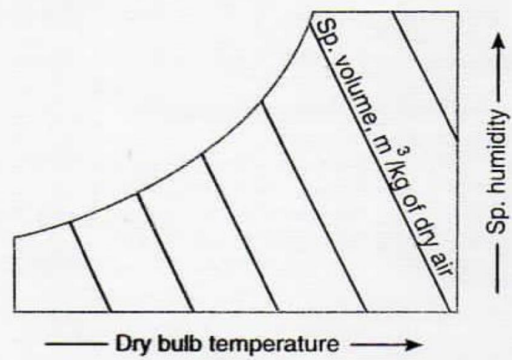

Fig. 12. Specific volume lines.
6. **Specific volume lines.** The specific volume lines are obliquely inclined straight lines and uniformly spaced as shown in Fig.12. These lines are drawn up to the saturation curve. The values of volume lines are generally given at the base of the chart.